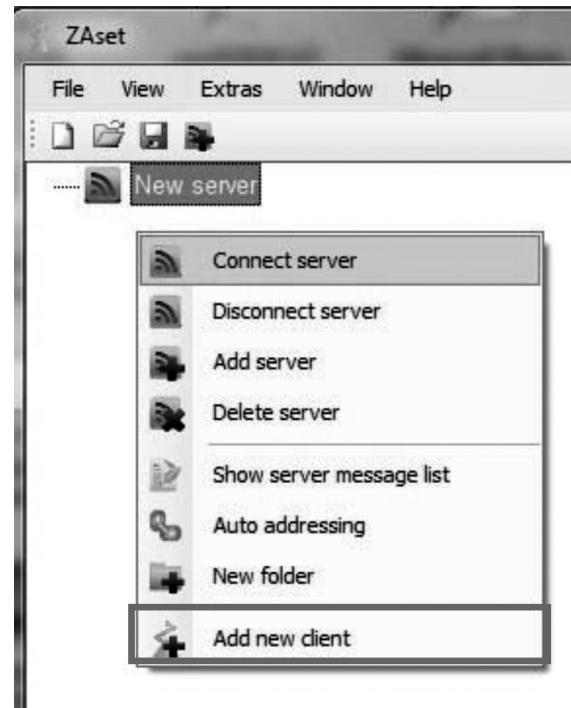

Fig. 7 — ZA — Add New Client
2. Select **Add new client** (see Fig. 7).